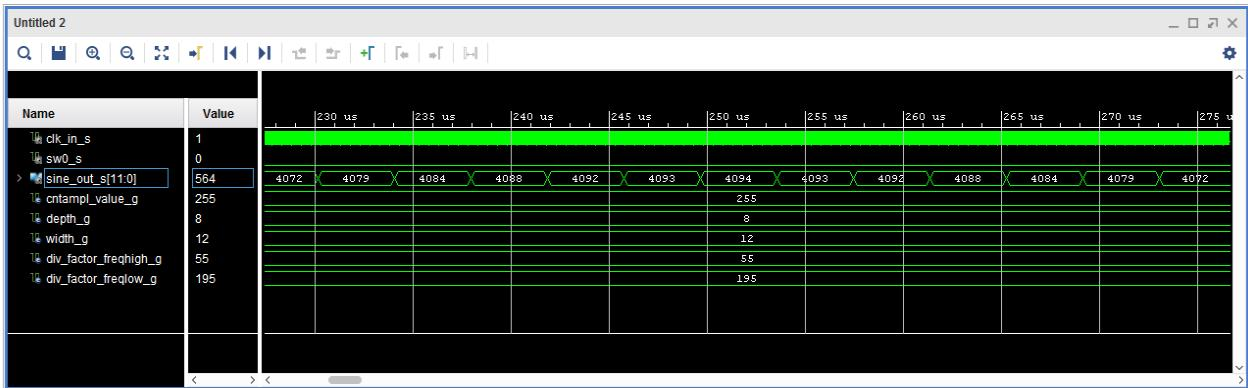

Figure 6.3: Simulation Results
3. Assuming no errors, your simulation result should look similar to Figure 6.3.
On the Figures 6.3 and 6.5 and in the *sine_top_tb.vhd* source file you can also notice that we have changed **div_factor_freqhigh_g** and **div_factor_freqlow_g** values from initial **57344** and **196608** values to **55** and **195** values, respectively. This is done, because we wanted to speed up the simulation process, in this example 1000 times, while retaining the same functionality. This is a way to speed up the simulation process without compromising functional behavioral of the system that is being simulated. This is the reason why we need only 4 ms to simulate our design, instead of 4000 ms which would take a 1000 times longer to complete.